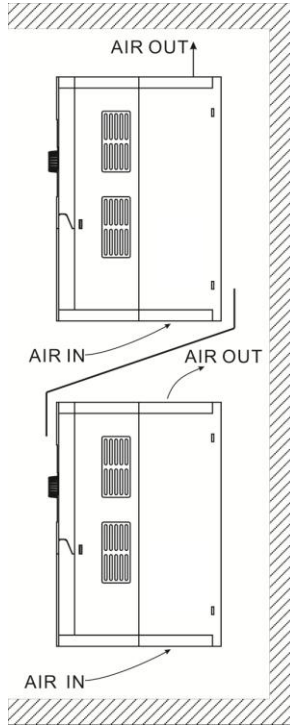

Fig. 2-2.2
- 2) Install the inverter vertically so that the heat may be expelled from the top. However, the equipment cannot be installed upside down. If there are multiple inverters in the cabinet, parallel installation is better. In the applications where up-down installation is required, please install the thermal insulating guide plate referring to the Fig. 2-2.2 for standalone